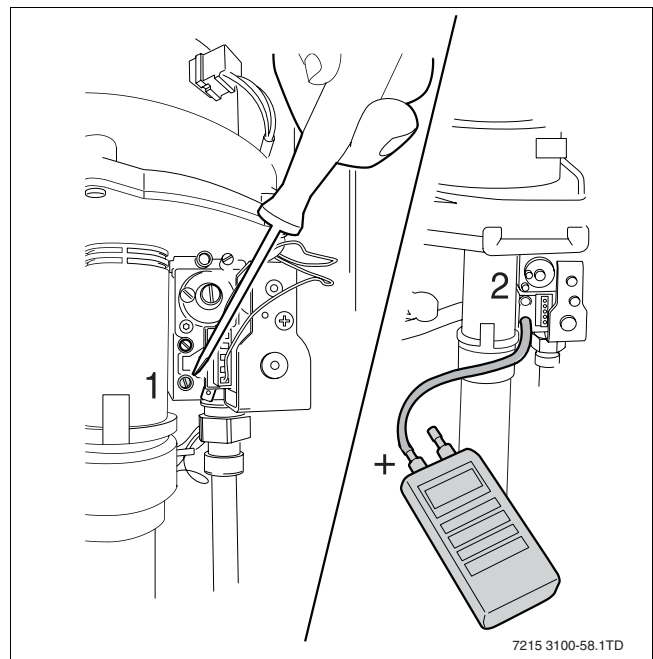

Fig. 58 Measuring the gas-supply pressure
- Attach a tube from the pressure gauge to the gas test nipple (the lower one, → fig. 58, item 2).